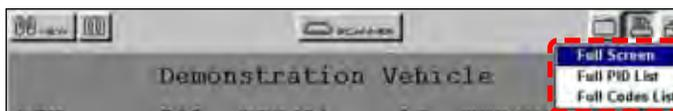

Figure 5-58 Sample Print menu
2. Select a print option from the dropdown menu (Figure 5-58).